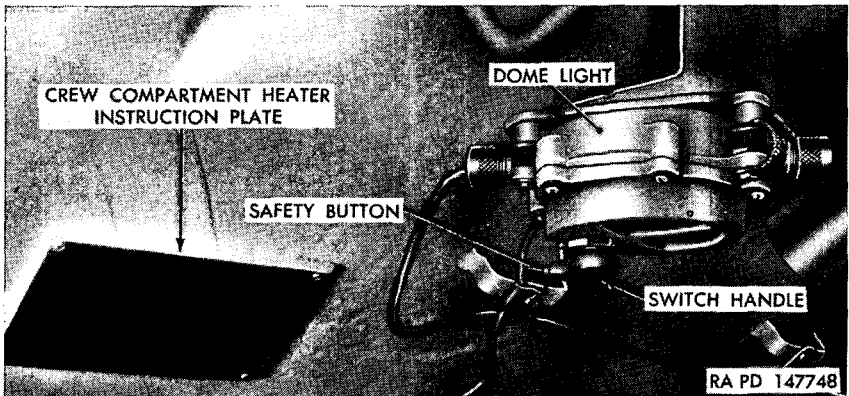

Figure 219. Hull dome light—installed view.
g. **HULL DOME LIGHTS.** Each dome light (fig. 219) has a partition dividing it into two sections, one section having a white lens and the other a red lens. Each section is equipped with a separate lamp. The lamp in the white lens section is turned on for regular use and the lamp in the red lens section is turned on for use in blackout areas. Each dome light has a switch handle with a safety button which must be pressed before the switch can be turned to the white lens section.
a. **REMOVAL** (fig. 219). Turn off master relay switch (fig. 18). Remove screw in center of switch handle and remove handle. Remove six screws from door and remove door and lens. Remove terminal screw and free feed cables from terminal. Remove cable nut, washer, ferrule, and rubber bushing and pull cable out of light housing. Remove three mounting nuts and lock washers and remove dome light.
b. INSTALLATION (fig. 219). Position dome light on mounting bracket studs and secure with three lock washers and nuts.